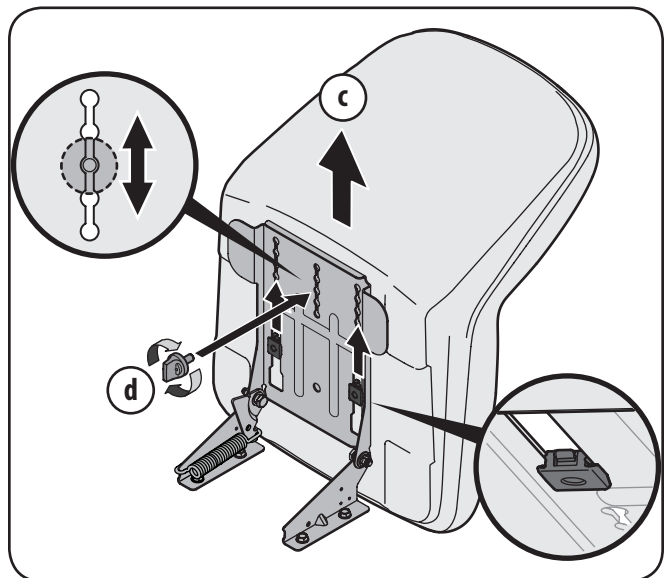

Figure 3-5
3. Slide the seat rearward in the seat pivot bracket (c), lining up the center rear slot in the pivot bracket with the remaining hole in the seat’s base. See Figure 3-5.
Note: Be certain the two seat tabs engage the pivot bracket as shown in the bottom inset of Figure 3-5.
4. Select desired position for the seat, and secure with the adjustment knob removed earlier (d in Figure 3-5).
5. To adjust the position of the seat, remove the adjustment knob on the bottom of the seat. Slide the seat forward or backward as desired. Reinstall the adjustment knob. See Figure 3-5.